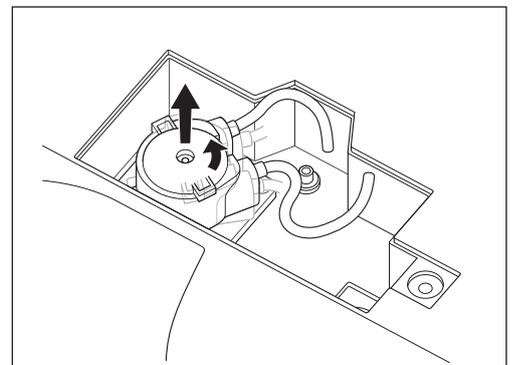

Fig. 53
- 5) Turn the Irrigation Pump counterclockwise until it clicks, and then pull it out (Fig. 53).